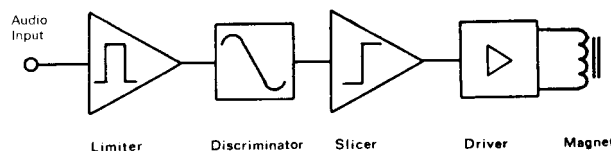

Fig 5: ST5 Block Schematic
Fig 5 shows a block schematic of a Terminal Unit (TU). Audio from the receiver is fed to a limiting amplifier which converts the signals into constant amplitude square waves; this takes care of fading of either one or both of the tones. The cleaned-up signal is passed through a discriminator which changes the frequency difference of